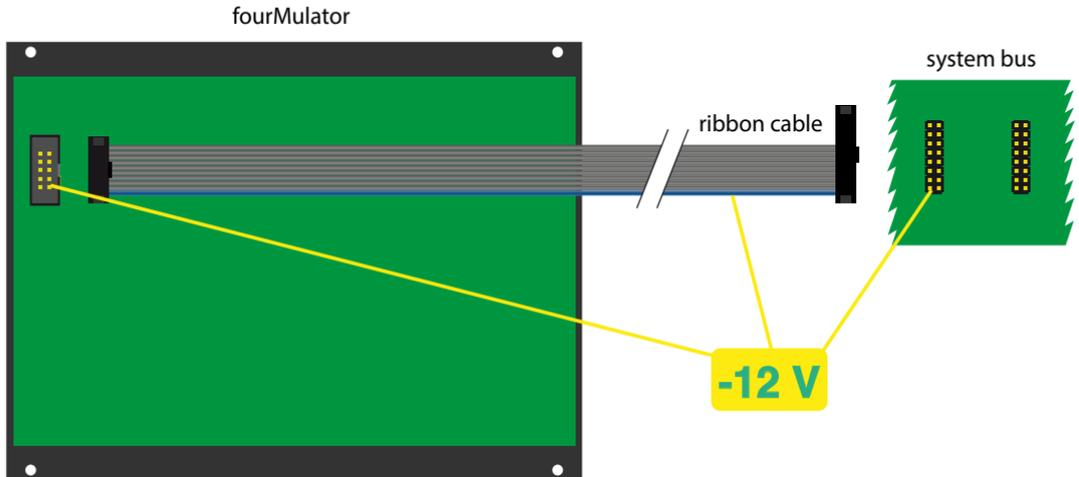

Figure 1: fourMulator rear with connector
2. Connect the supplied ribbon-cable with its 10-pole connector to the corresponding multi-pin connector on the fourMulator's rear. (*see "Figure 1: fourMulator rear with connector" on page 4*)